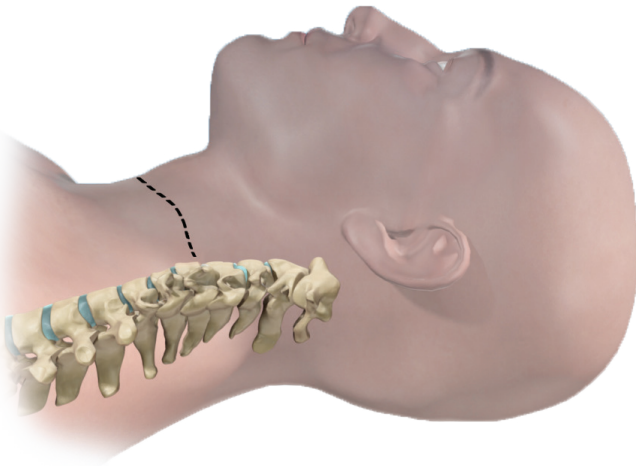

Figure 1
- Following adequate general anesthesia, the patient is placed in the supine position with the head in slight extension (Figure 1). The mandible is tilted out of the surgical field. The posterior cervical spine is supported to establish and maintain normal lordosis.